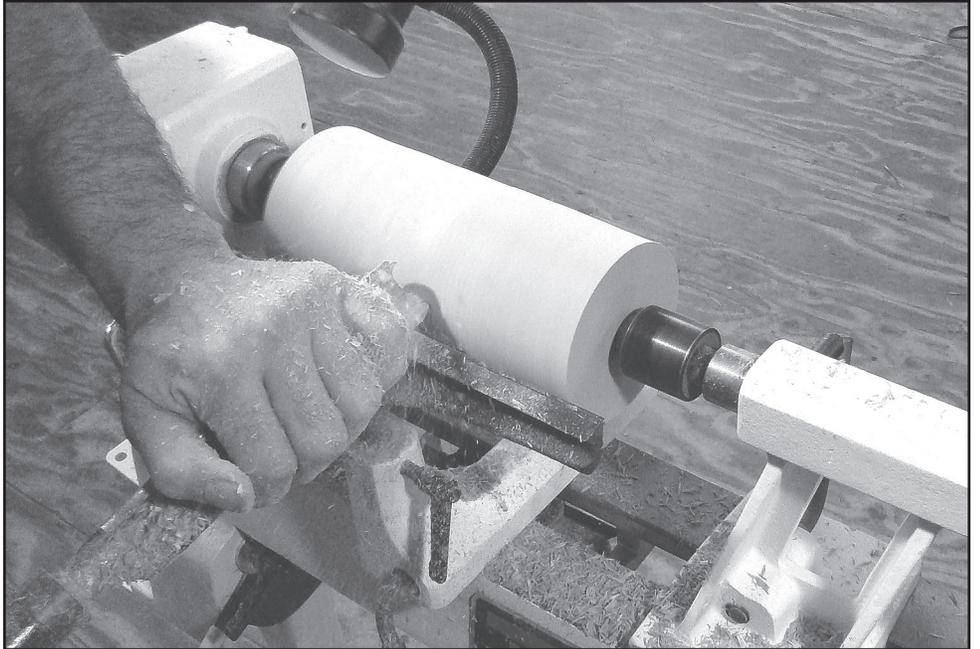

Fig. 10
2. Turn the blank round. Fig. 10.